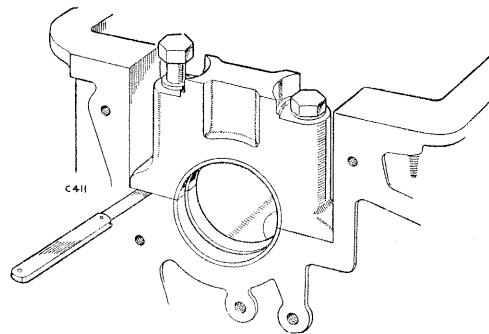

Fig. A-68—Checking main bearing nip
1. Remove the bearing caps and fit the bearing shells, locating by means of the tags. Tighten the caps down and slacken off one bolt of each pair. Check the bearing nip, as illustrated in Fig. A-68, ensuring that the clearance does not exceed .004 to .006 in. (0,10 to 0,15 mm). The nip can be corrected by selective assembly of bearing shells; these are available in slightly varying thicknesses.